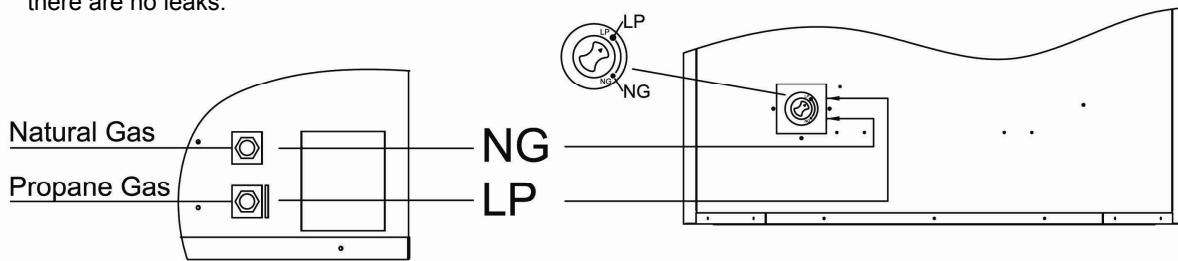

Figure 13
1. Remove bottom screw from cover plate, see Figure 13, and rotate to expose gas selection valve.